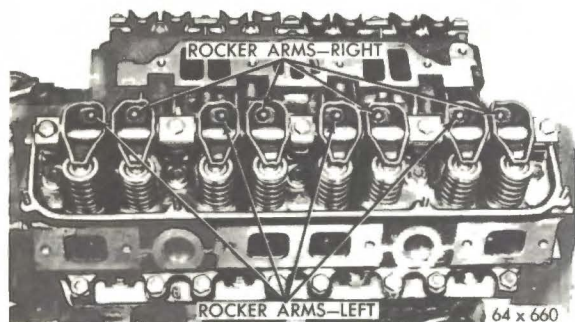

Fig. 1 Rocker Arm Assemblies Installed
(1) Remove the cylinder head cover and gasket.
(2) Remove the bolts that attach the rocker arm shaft to the cylinder head and remove the rocker arms and shaft as an assembly.
(3) If the rocker arm assemblies have been disassembled for cleaning, inspection or replacement, refer to Fig. 1 for proper reassembly.